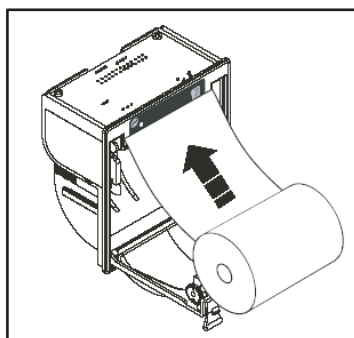

Fig. 29: Installing new paper roll
2. Position the roll of paper inside the housing in the rotation direction indicated in Fig. 29.